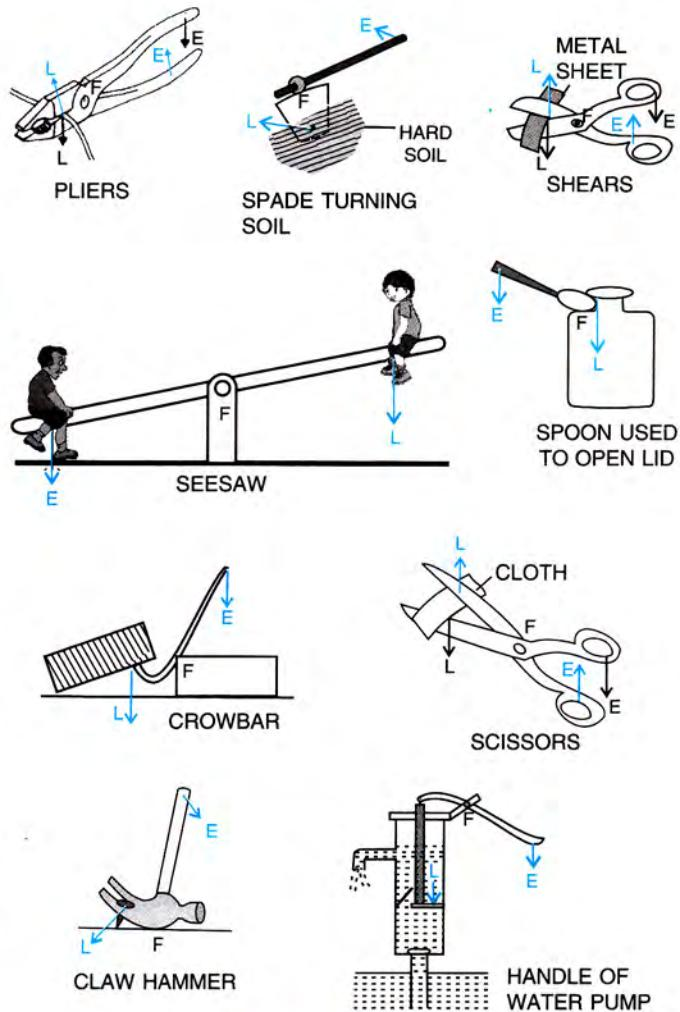

Fig. 3.2. Class I levers
**Examples :** A seesaw, a pair of scissors, crowbar, handle of water pump, claw hammer, pair of pliers, beam of a physical balance, spade used for turning the soil, spoon used to open the lid of a tin can, catapult and nodding of the human head are the few examples of Class I levers. Some of these are shown in Fig. 3.2.